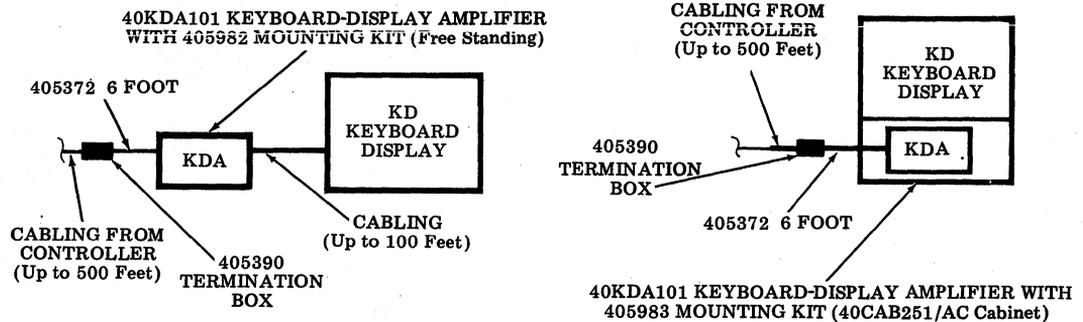

Fig. 2—KDA Installations
1.03 Two types of KDA installations, (Fig. 2) are described in this section: